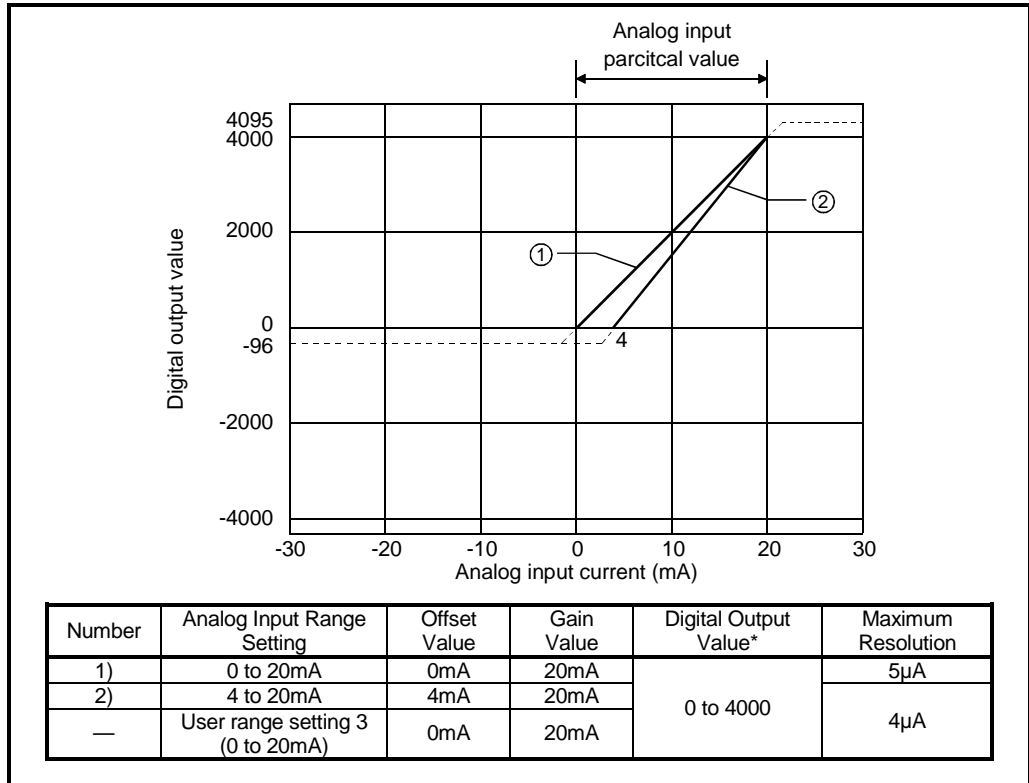

Fig. 3.2 Current Input Characteristic
<p>(1) Do not input more than ±30mA. A breakdown may result due to heat increase.</p> <p>(2) If the analog input provided corresponds to the digital output value* beyond its range, the digital output value is fixed to the maximum or minimum.</p> <ul style="list-style-type: none"> • For 0 to 4000, the digital output value is within the range -96 to 4095. <p>(3) Within the analog input and digital output scopes of each input range, the maximum resolution and accuracy are within the performance specification range. Outside those scopes, however, they may not fall within the performance specification range. (Avoid using the dotted line part in Fig. 3.2.)</p> <p>(4) Set the offset and gain values of the user range setting within the range satisfying the following conditions.</p> <p>(a) Setting range when user range setting 3 is selected: 0 to 20mA</p> <p>(b) (Gain value) > (Offset value)</p> <p>If you attempt to make setting outside the setting range of (a), the "RUN" LED flickers at 0.5s intervals. Set the values within the setting range.</p> <p>If you attempt to make setting outside the setting range of (b), the "RUN" LED flickers at 0.5s intervals. Make setting again.</p>